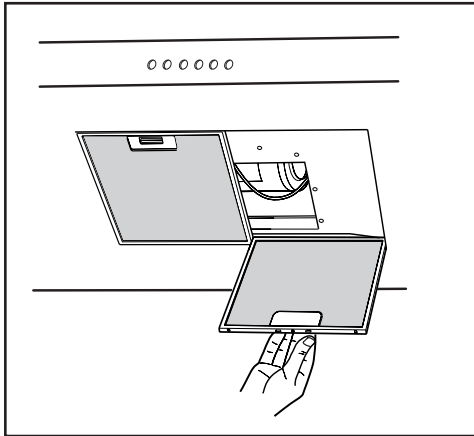

Fig.9
- The minimum distance between the support surfaces of the cooking pots on the cooker top and the lowest part of the cooker hood must be at least 65 cm. If a connection tube composed of two parts is used, the upper part must be placed outside the lower part. Do not connect the cooker hood exhaust to the same conductor used to circulate hot air or for evacuating fumes from other appliances generated by other than an electrical source. Before proceeding with the assembly operations, remove the anti-grease filter(s) (Fig.9) so that the unit is easier to handle.